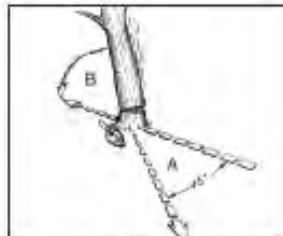

Fig. 3
Warning: An escape path (A) should be planned and cleared as necessary. The path should extend back and diagonally to the rear of the expected line of fall, as illustrated in fig.3.
Warning: As the felling cut (D) gets close to the hinge (F), the tree should begin to fall. Remove saw from cut, stop the engine, put the chainsaw down and leave the area by the retreat path (Fig. 3).